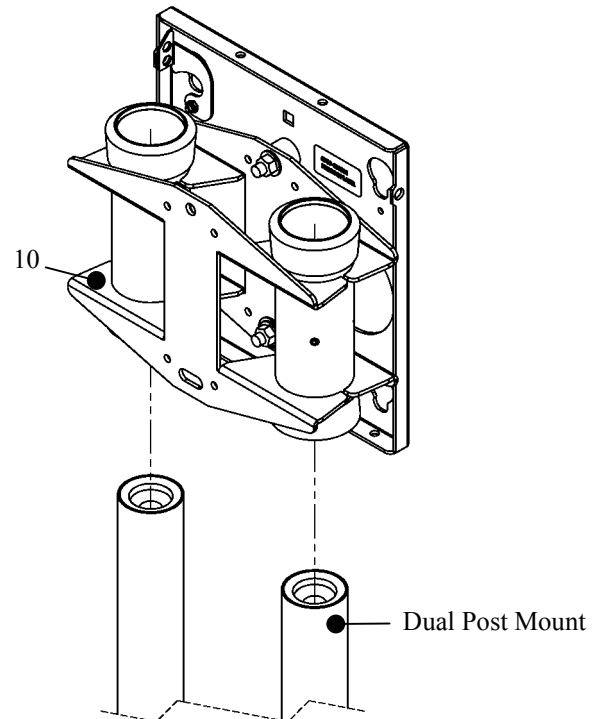

Figure 3. Mount the MAC-144
2. With an assistant, install the MAC-144 (10) onto the dual post as shown in Figure 3.
3. Adjust the MAC-144 (10) to the desired height on the dual post.